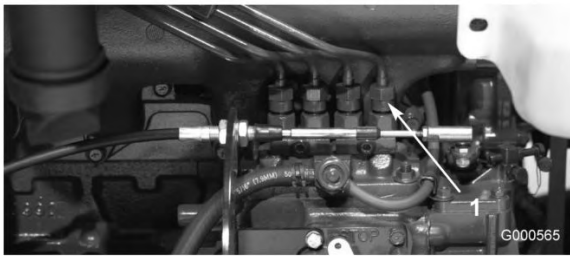

Figure 41
1. Loosen the pipe connection to the No. 1 injector nozzle and holder assembly at the injection pump (Figure 41).